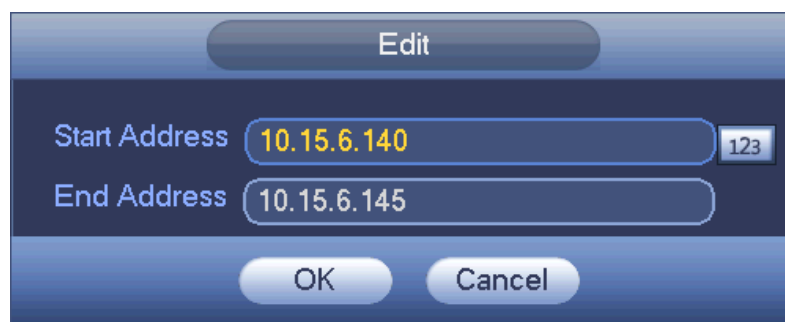

Figure 4-228
- Edit: Click it to edit start address and end address. See Figure 4-228. System can check the IP address validity after the edit operation and implement IPv6 optimization.